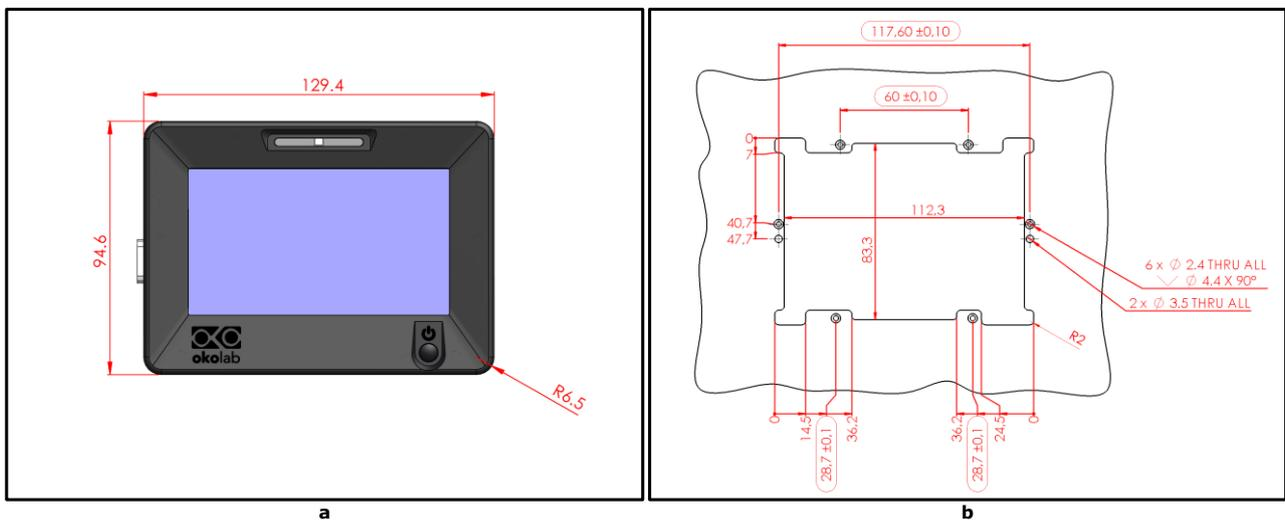

Figure 80. Display and panel opening dimensions. (a) Display size; (b) Panel opening size.
1. Cut an opening in the panel with the size indicated in Figure 80(b).